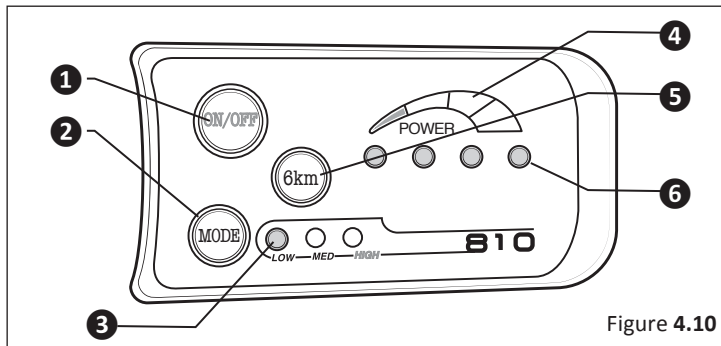

Figure 4.10
- 1 Power button:** Press and hold for 3 seconds to turn the system on. If the system does not turn on, make sure the battery has been energized by pushing the "ON" button located on the battery itself. **Figure 4.10**
- 2 Assist adjustment:** Using the "mode" or "+" and "-" buttons, depending on model, adjust the level of assist based on conditions. **Figure 4.10**
- 3 Assist level:** Depending on your model the display has 3 or 5 indicators for the level of assist chosen. **Figure 4.10**
- 4 Battery level indicator:** Depending on the model, the display has a 5-bar indicator showing battery charge. **Figure 4.10**
- 5 Walk assist:** If so equipped, press and hold the 6KM/h button to engage the walk assist mode. This provides a small assist to help if you are walking your bike up an incline. **Figure 4.10**
- 6 Error:** If a system error occurs, the display lights will flash in a specific sequence. See the display manual or call Schwinn Customer Service to diagnose. **Figure 4.10**